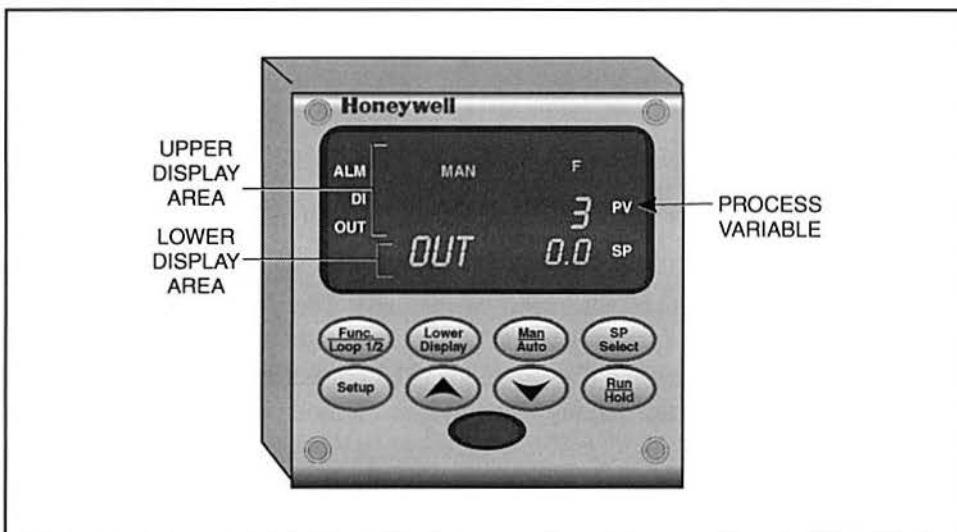

Figure 25. Honeywell Controller in the Control Display Mode
While in the control display menu, pressing the Lower Display key repeatedly scrolls through various display parameters in the lower display area. Common display parameters found in the lower display area include the setpoint (SP) value, the deviation (DEV) of the PV from the SP, and the output (OUT) of the controller. If the controller is a dual-loop controller, a second setpoint (2SP) also appears in the lower display. For example, figure 25 shows the controller indicating the output in the lower display area. Diagnostic messages also appear in the lower display area.